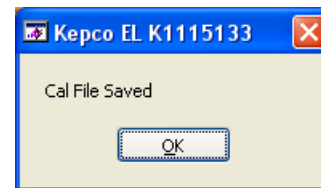

FIGURE 4. CAL FILE SAVED WINDOW
5. When the data has been saved, the **Cal File Saved** window opens (see Figure 4), entitled **Kepco EL xxxxxxxx** where xxxxxxxx is the serial number of the EL Load, and the message Cal File Saved is displayed. Click **OK** to end the program.